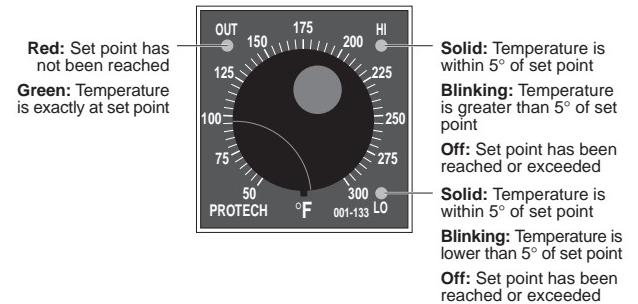

Figure 3-3: Heater Controller
8. **UPPER ROLL HEATER CONTROLLER** – Provides a readout of the temperature of the upper roll and the set-point for the desired temperature. (See Figure 3-3.)
9. **LOWER ROLL HEATER CONTROLLER** – Provides a readout of the temperature of the lower roll and the set-point for the desired temperature. (See Figure 3-3.)